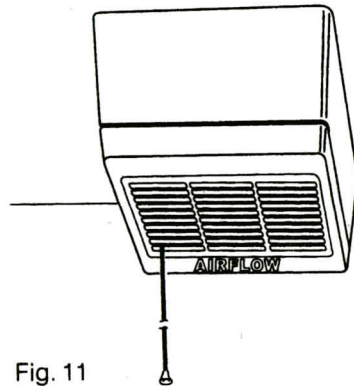

Fig. 11
**7.7** Refit the terminal block, fan and motor assembly, which must be inserted under the tabs on the backplate and be pulled to the left whilst tightening the fixing screws, followed by the module and grille. Do not overtighten the grille retaining screw. If the unit is fitted with a pull cord, route the cord through the grille aperture (see Fig. 11).
If the unit is fitted with a pull cord route the cord through the grille aperture (see Fig. 11).